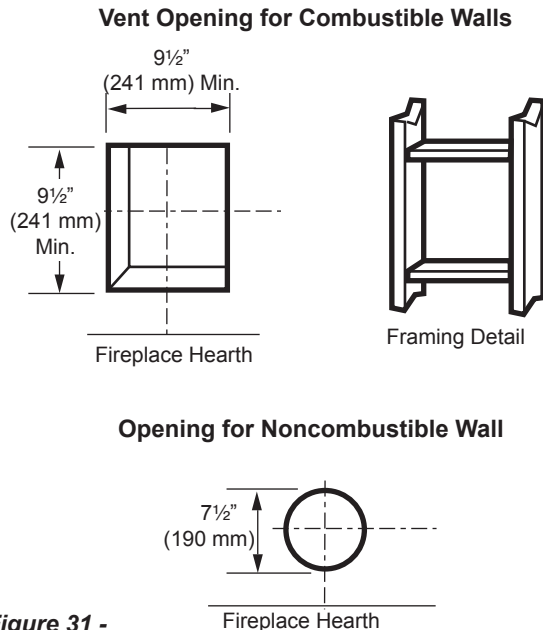

Figure 31 -
Combustible Exterior Walls: Cut a 9½"H x 9½"W square hole through the exterior wall frame. *Figure 31*
2. The center of the hole should line up with the center line of the horizontal rigid vent pipe end. Allow 1/4" minimum rise per foot. *Figure 31*